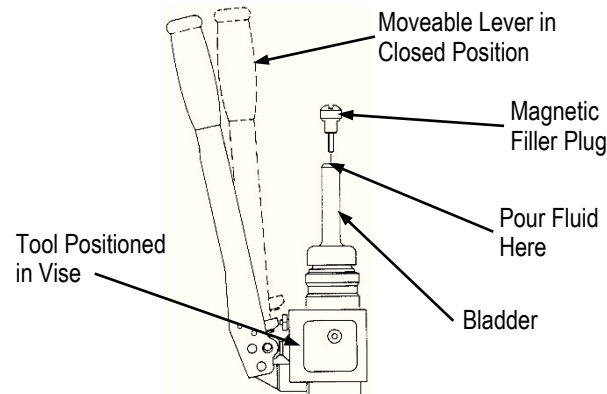

Figure 2
5.2. Hydraulic Fluid Level Inspection (Figure 2)